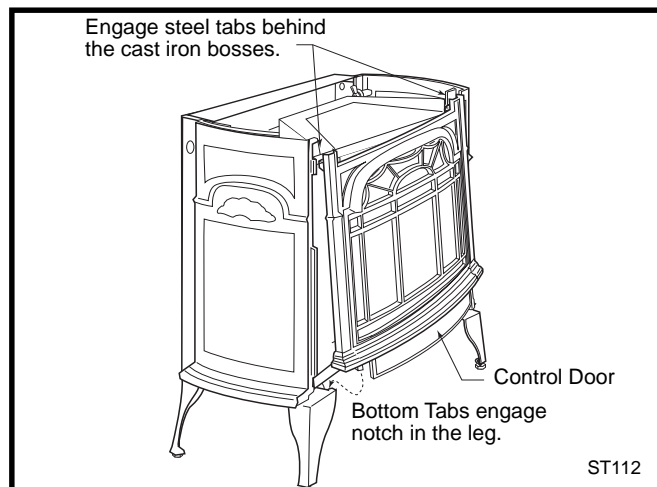

Fig. 16 Install the Front Plate. Your Front may look different from that depicted.
Grasp the Front Plate by the window bars and lift into position engaging the two steel tabs behind the adjacent bosses in the Side Plates. (Fig. 16) Then seat the Front against the sides so that the tabs at the bottom lip engage with the notches in the stove legs.
2. *Freestanding or Hearthmount:* Lift the Front Plate up and then swing the bottom out to disengage from heater shell. (Fig. 16)